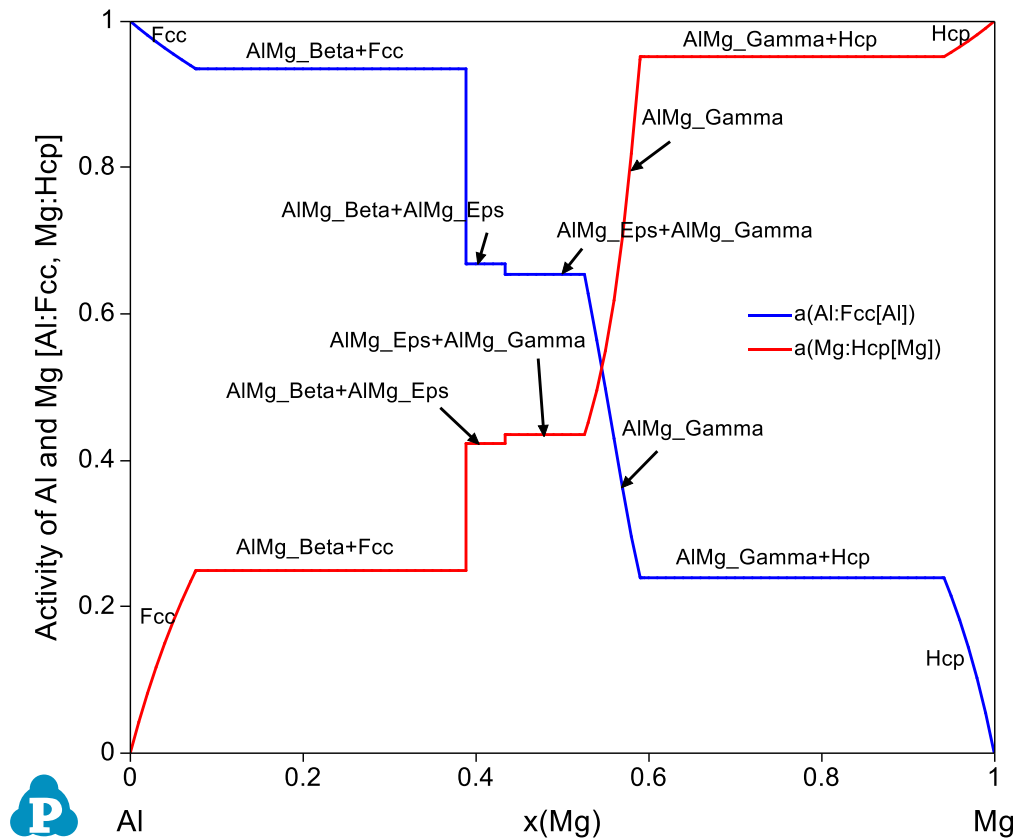

Figure 1.10.3: Activities of Al and Mg in Al-Mg binary at 300°C
- Figure 1.10.3 shows the activities of Al and Mg as a function of $x(\text{Mg})$ using Fcc Al and Hcp Mg as reference states;